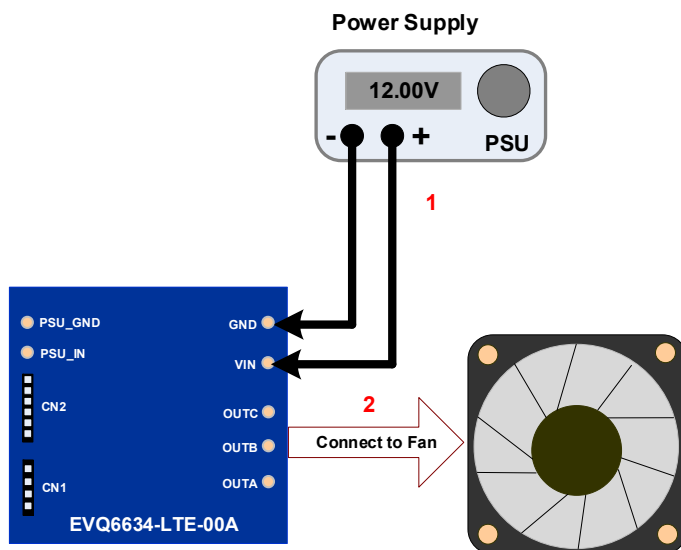

Figure 2: EVB Connection without the Communication Kit
6. Figure 2 shows the equipment set-up without the communication kit.